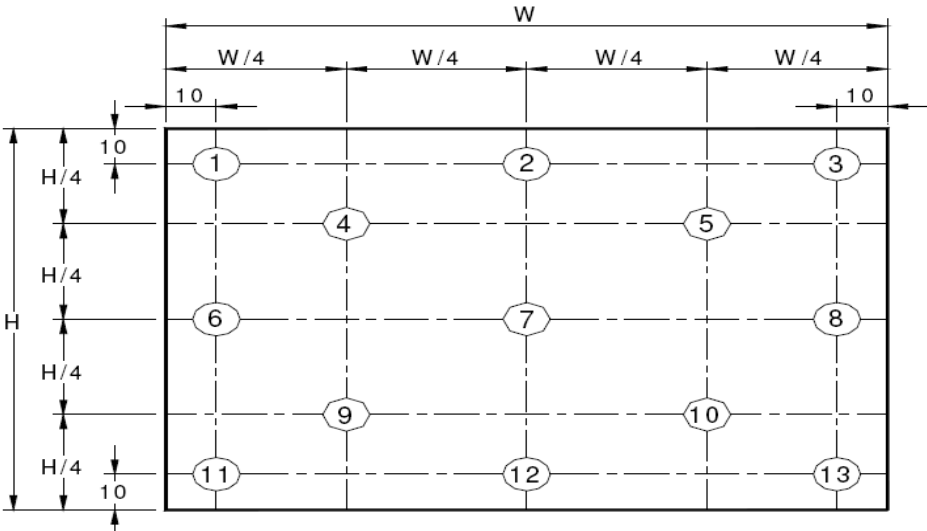

Figure 9. Uniformity Measurement Locations (13 points)
4. The White luminance uniformity on LCD surface is then expressed as : $\Delta Y = \text{Minimum Luminance of 5(or 13) points} / \text{Maximum Luminance of 5(or 13) points.}$ (see Figure 8 and Figure 9).
The White luminance uniformity on LCD surface is then expressed as : $\Delta Y5$ = Minimum Luminance of five points / Maximum Luminance of five points (see Figure 8) , $\Delta Y13$ = Minimum Luminance of 13 points /Maximum Luminance of 13 points (see Figure 9).